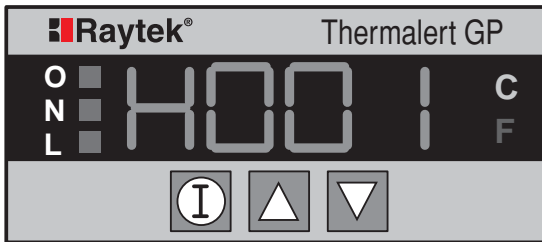

Figure 6: Device Selection Display
1. From the temperature / value display, press and hold , press , then release them both. A display similar to Figure 6 appears. (The “H” will be followed by numbers designating the device type. See Step 2.)